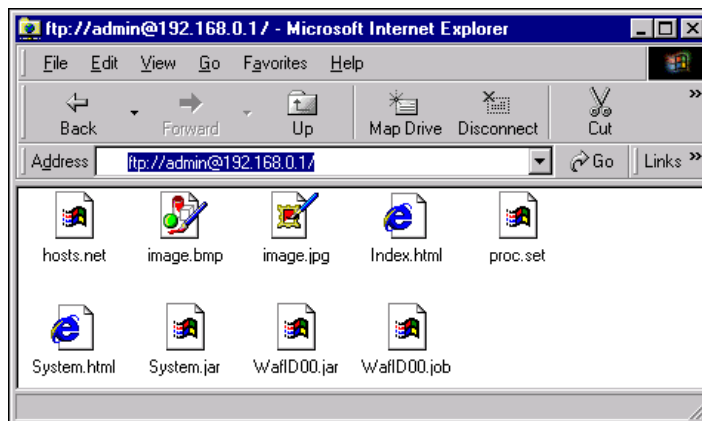

Figure A-3: Installed Wafer Reader Files
- 7 Copy and paste (or drag-and-drop) the files located in the In-Sight PC Host installation directory to the wafer reader's FTP file system, refresh the view; the selected files have been copied to wafer reader flash memory and now appear in the browser window, as shown in Figure A-3.